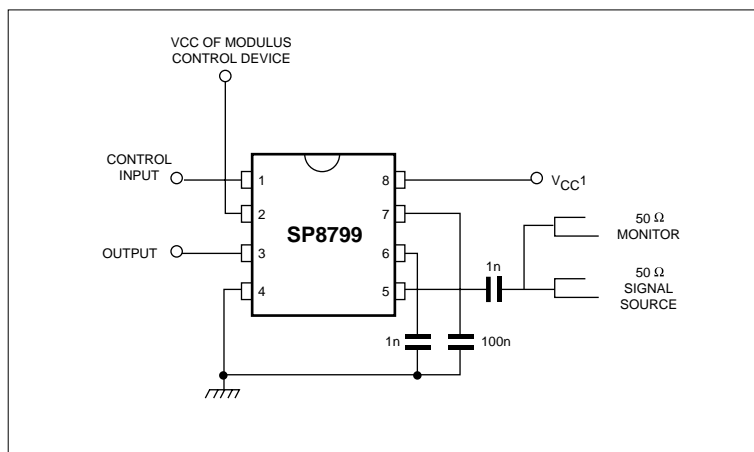

Figure 6 : Toggle frequency test circuit
- 2. The test configuration for dynamic testing is shown in Fig.6.